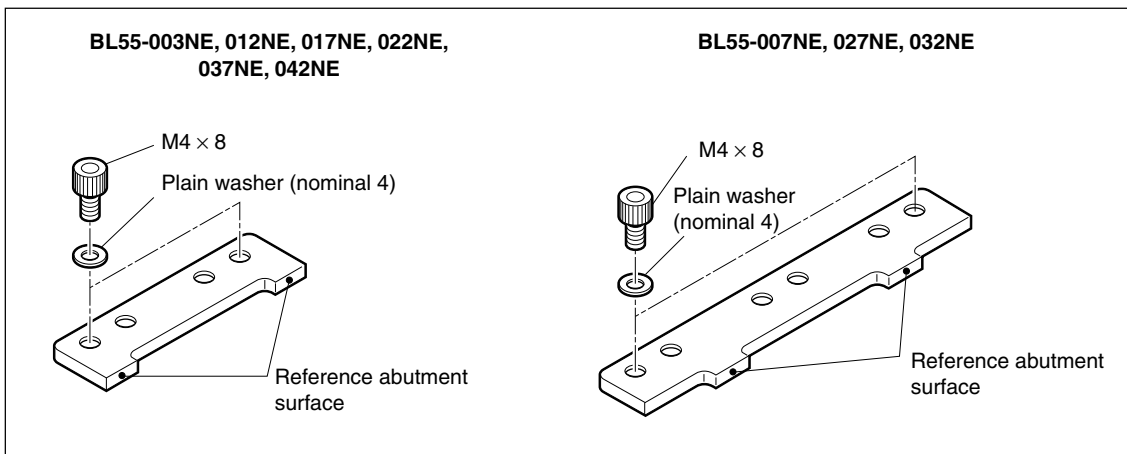

Fig. 3-3
- 4** Insert the scale between the scale clamp and the mounting surface while pressing the datum surface of the scale (see Fig. 3-3) lightly against the reference abutment surface (Note). Gradually and alternately tighten screws A and B of the scale clamp indicated in the figure. (Use only the left-side scale clamp for clamps with two screws, and use the center scale clamp for clamps with three screws.) (Final fastening torque: 1.4 N · m)